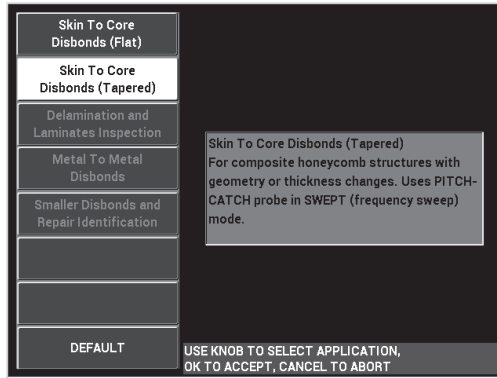

Figure 6-18 The Skin To Core Disbonds (Tapered) application
3. Select the **Skin To Core Disbonds (Tapered)** application, and then press  to accept (see Figure 6-18 on page 143).